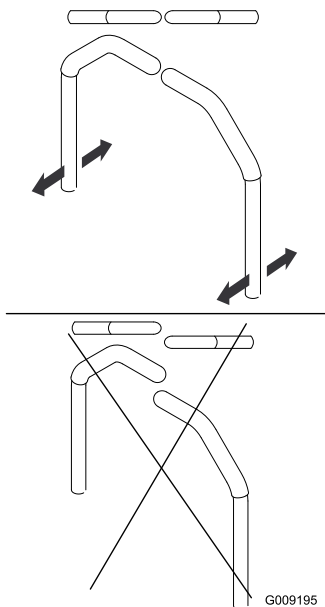

Figure 95
4. Align the levers in the front-to-rear position by bringing the levers together to the NEUTRAL position, and slide them until they are aligned, then tighten the bolts (Figure 95).